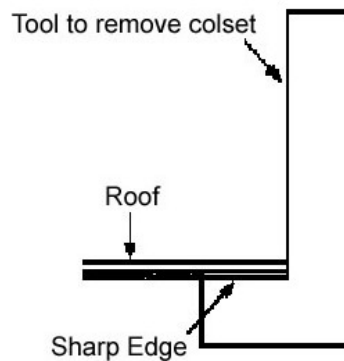

Figure 2: Tool to remove Colset
- 1.3 Remove 'Colset' bituminous coating from the underside of the remaining panel and carlines for a distance of 25mm from the edge of the hole (fire precaution when welding see Figure 2).
2.3 Remove 'Colset' bituminous coating from the underside of the remaining panel and carlines for a distance of 25mm from the edge of the hole (fire precaution when welding see Figure 2).